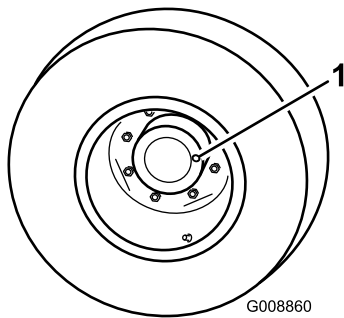
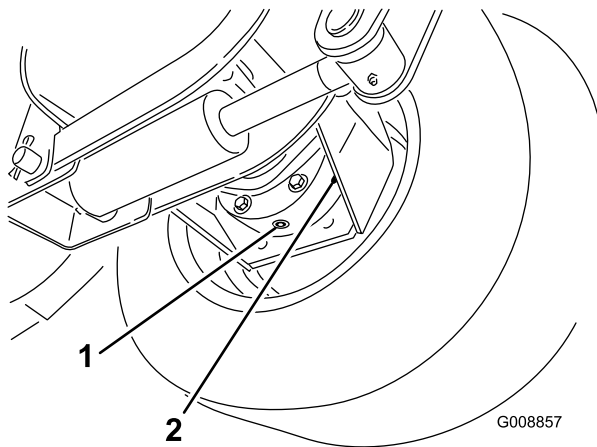

Figure 68
Figure 69
1. With the machine on a level surface, position the wheel so that the check/drain plug (Figure 68) is at either the 3 or 9 o'clock position.
2. Remove the check plug on the planetary (Figure 68) and on the brake housing (Figure 69). Gear oil should be within 1/8 inch of the check plug on the brake housing and the planetary.
3. Place a drain pan under the brake housing on the other side of the wheel (Figure 69).